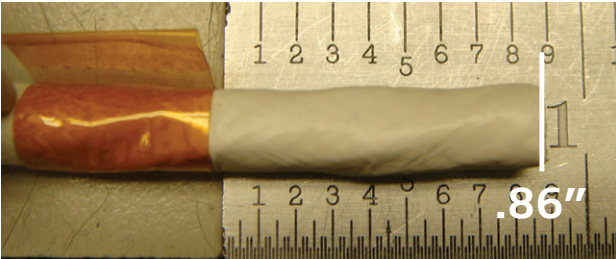

Figure 13: Marking the cable
- a. Using a Sharpie or tape, mark the outer jacket at 0.86 inches from the end (Figure 13).